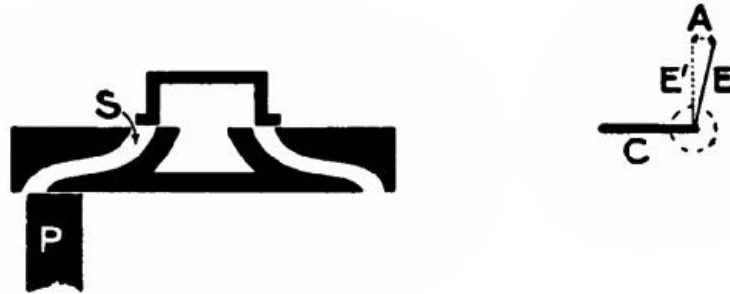

FIG. 26.
It must be noticed here—(1) that steam is admitted at full pressure *all through* the stroke; (2) that admission begins and ends simultaneously with the stroke. Now, in actual practice it is necessary to admit steam before the piston has ended its travel, so as to *cushion* the violence of the sudden change of direction of the piston, its rod, and other moving parts. To effect this, the eccentric is set more than  $90^\circ$  in advance—that is, more than what the engineers call *square*. Fig. 26 shows such an arrangement. The angle between *e* and *e*1 is called the *angle of advance*. Referring to the valve, you will see that it has opened an appreciable amount, though the piston has not yet started on its rightwards journey.